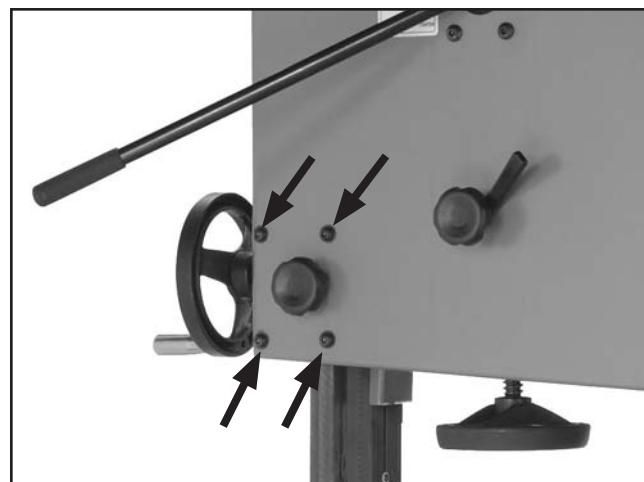
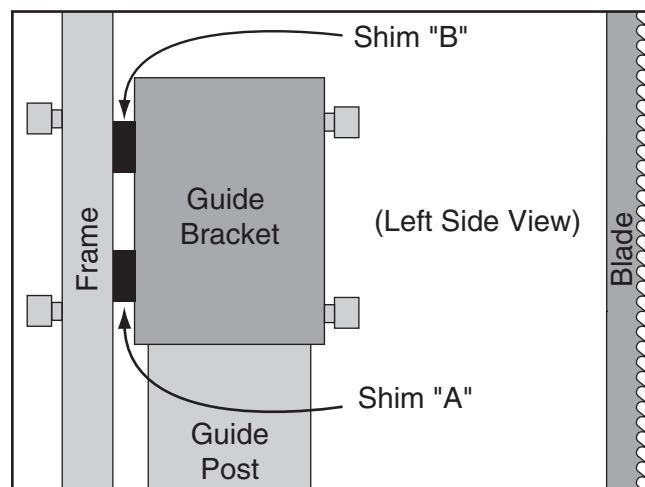

Figure 104. Guide post adjustment screws.
Figure 106. Location for placing shims.
7. Loosen each of the four screws shown in **Figure 104** ¼ turn.
9. Tighten the screws shown in **Figure 104**.
7. Loosen the four screws shown in **Figure 104** enough to fit metal shims between the frame and the guide post bracket (see **Figure 106**).
8. Tighten the four screws shown in **Figure 104**, then repeat **Steps 4–5**.